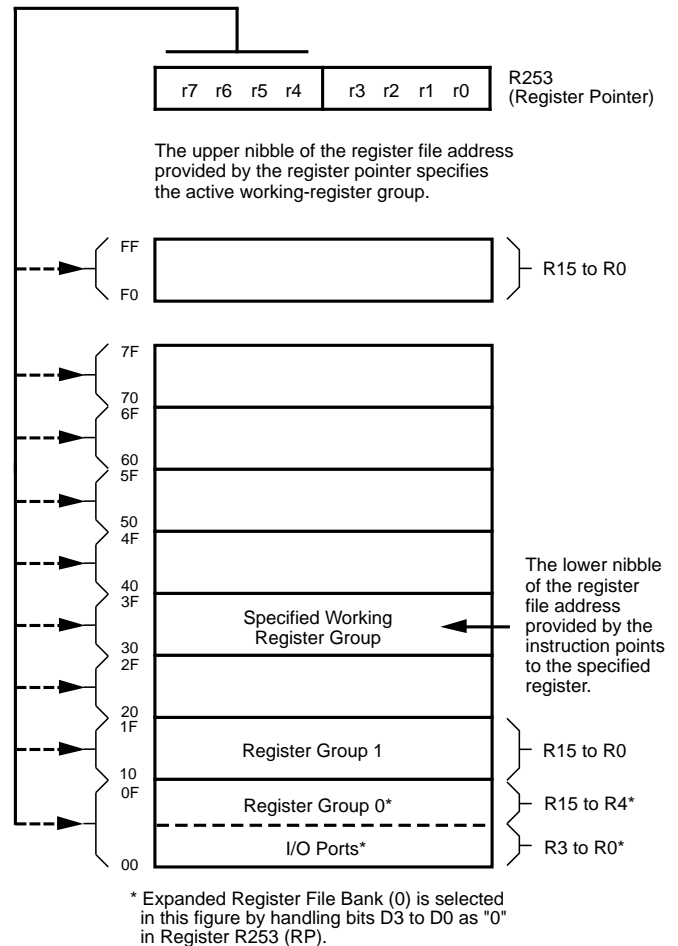

Figure 18. Register Pointer
**Register File.** The Register File consists of three I/O port registers, 237 general-purpose registers, 15 control and status registers, and four system configuration registers in the Expanded Register Group (Figure 16). The instructions can access registers directly or indirectly through an 8-bit address field. This allows a short 4-bit register address using the Register Pointer (Figure 18). In the 4-bit mode, the Register File is divided into 16 working register groups, each occupying 16 continuous locations. The Register Pointer addresses the starting location of the active working-register group.